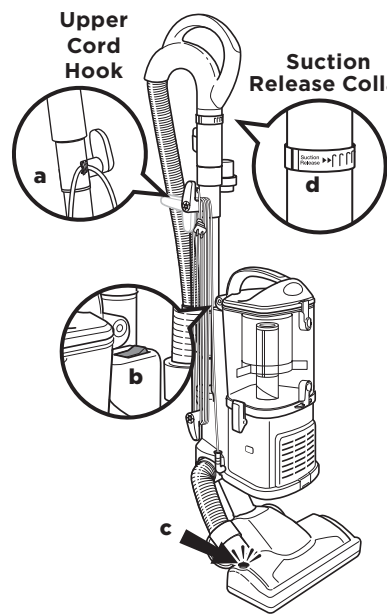

Fig. 11
- 2 Secure the power cord by wrapping it around the cord clips (a). (Fig. 11)
- 3 Press the selector switch (b) to Setting I to vacuum bare floors (straight suction only) or to Setting II to engage the brushroll (for vacuuming carpets and rugs). (Fig. 11)
**Brushroll Indicator Light:** The brushroll indicator light (c) will illuminate green when the brushroll is on, or red if there is a blockage or jam. (Fig. 11) This feature is designed to protect the brushroll. See Checking for Blockages on page 19.
- 5 Increase or decrease suction power by adjusting the suction release collar (d) on the handle. (Fig. 11) If the vacuum seems difficult to push or pull or if it is lifting up area rugs, reduce suction by rotating the collar counterclockwise. To increase suction and to vacuum floors, rotate the collar clockwise.